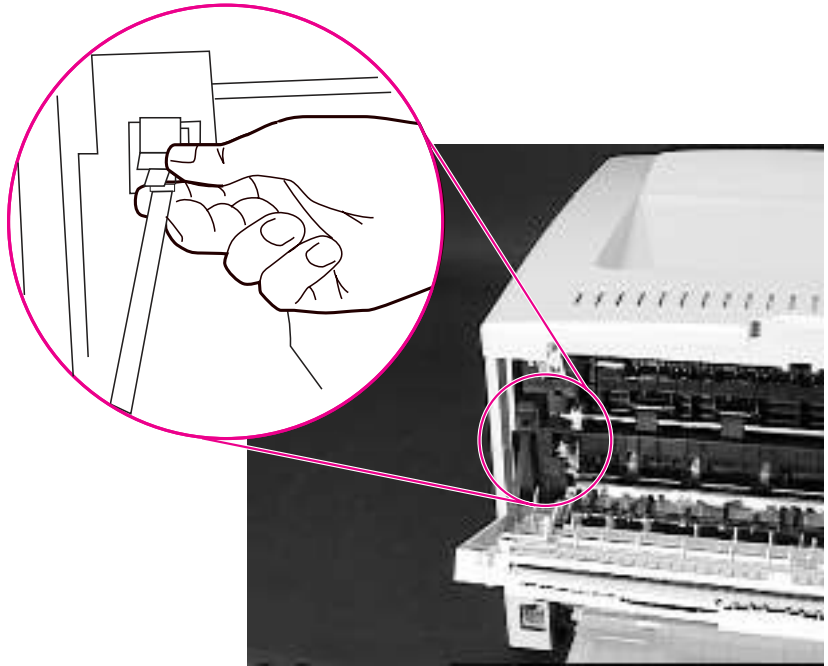

Figure 6-4 Support Strap
- 2 The plastic support strap is located on the left side of the printer. To release the strap, pinch the top of the strap with your index finger underneath the strap, and your thumb on top of the tab. Squeeze and lift up from the bottom, while pulling out (Figure 6-4).